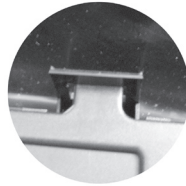

fig. 5
- **Releasing The Shade Cartridge. (See fig. 5)**